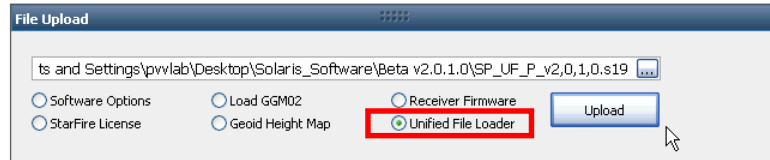

Figure 19: File Upload – Unified File Loader Option
48. Select *Unified File Loader* on the *File Upload* window (see Figure 19).